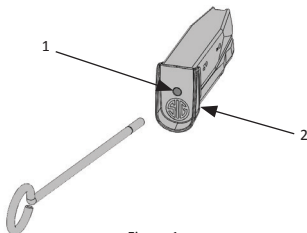

Figure 1
2. Using a round tool, press in on the insert stud (Figure 1, Item 1) until it is free from the floorplate (Figure 1, Item 2).